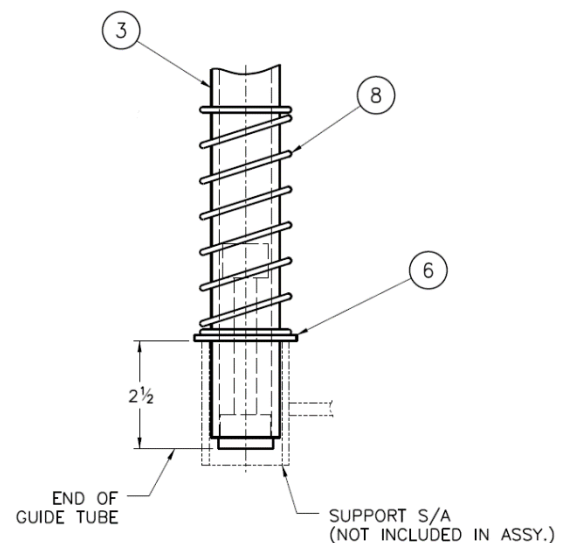

Figure 6: Bottom Spring Support Location
- 6.10. Install the bottom spring support (customer supplied) to hold the Float (4), Coil Spring (8), and Spring Washer (6) in the location specified in Figure 6. The Float (4), Coil Spring (8), and Spring Washer (6) must be protected from damage and weld spatter during support installation. If the bottom spring support is welded, it must be done with a procedure qualified for the installation shop.